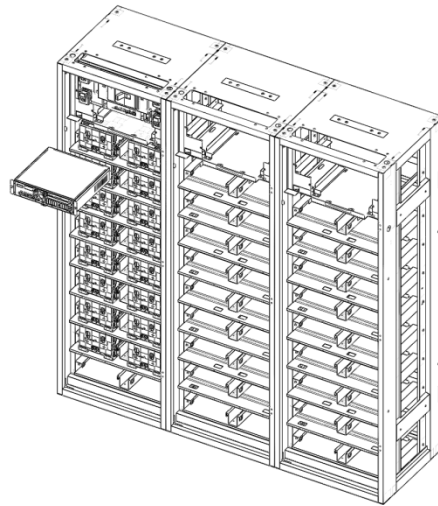

Figure 2-18: Inserting SMPS Assembly
4. Insert SMPS Assembly into the rack frames designated for SMPS Assembly as shown in Figure 2-18: Inserting SMPS Assembly